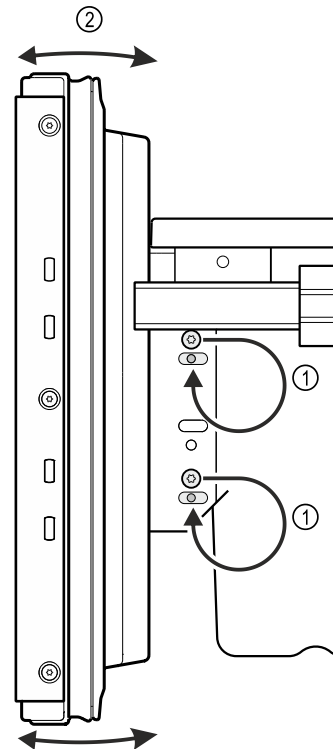

Fig. 18 Example illustration
- ▶ Insert screws into the elongated holes. Fig. 18 (1)
- ▶ Set the inclination of the pull-out trolley front. Fig. 18 (2)